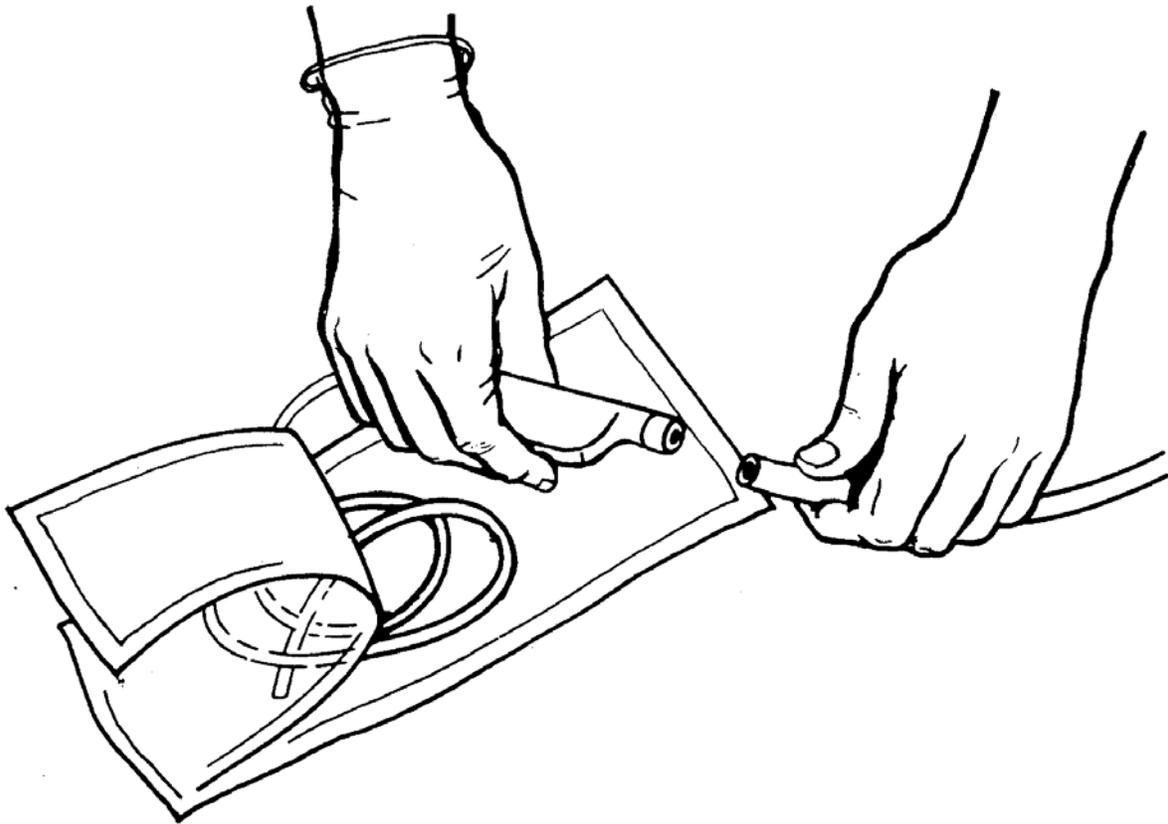

Figure 4-3. Connecting a catheter to suction apparatus.
(1) Some suction kits provide only one sterile glove. If only one sterile glove is available, put it on your dominant hand. Use the gloved hand to handle sterile items. The gloved hand must remain sterile throughout the procedure.
(2) If two sterile gloves are available, put one glove on your nondominate hand. Then put the remaining glove on your dominate hand. Your gloved dominate hand will be used to handle sterile items and must remain sterile throughout the procedure. The glove on the other hand provides protection to you and is used to handle nonsterile items.
m. **Attach Catheter to Suction Tubing.** Attach the suction catheter to the tubing from the suction apparatus (figure 4-3). When performing this step, hold the suction catheter in the gloved dominate hand and hold the tubing from the suction apparatus in the nonsterile (ungloved) hand.